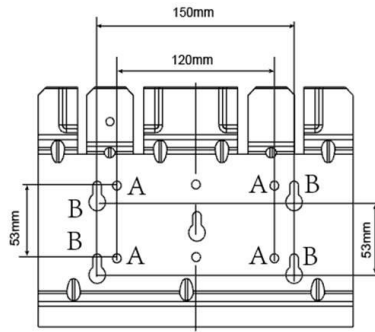

Figure. 9 Dimension drawing of mounting plate
1. Mount the mounting plate to the wall with at least 4 screws and anchors (\varnothing 6mm). With 4 screws use 4 holes A or 4 holes B (see Figure 9). You can use the mounting plate as a template for marking the positions of the boreholes.
5. With at least two persons on either side of the inverter, lift it up and place it carefully onto the mounting plate. Install two screws as shown in the figure 9 to secure the